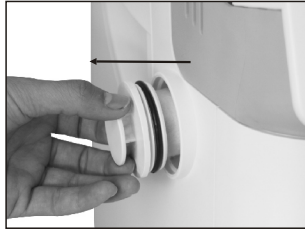
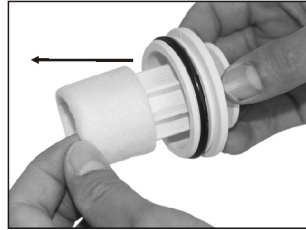

Figure 17
Figure 18
- The mesh in filter cleans once half a month. I -stage filter can be taken out of the foreside panel. (Figure17, Figure18)